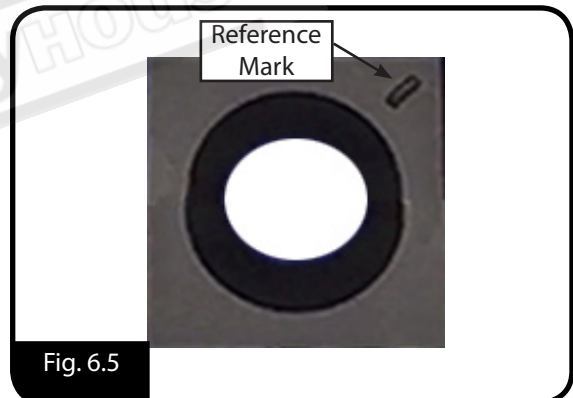

Fig. 6.5
6. Replace the insert so that a fresh cutting edge faces outward. If all four insert cutting edges have been used, replace the insert with a new one. Always position the reference mark (Fig.6.5) on the insert in the same position when installing a new insert to aid in the rotational sequencing.